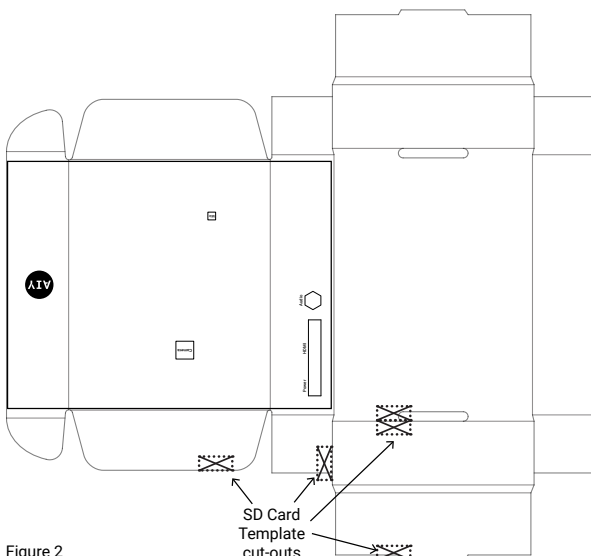

Figure 2
- 4 Empty the box, unfold it, and lay it flat, as shown in figure 2.
- 5 Grab the SD Card Template you already cut out and use it to trace and then cut away the five areas indicated in figure 2. The placement does not need to be exact. This will allow